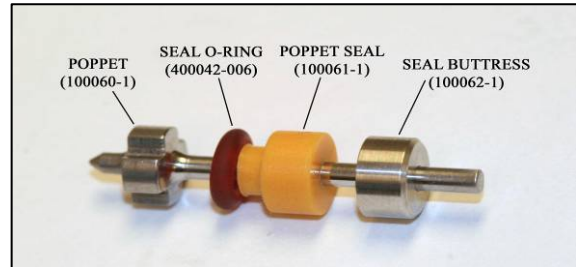

Figure 5
11. Apply a light coat of Food Grade Lube (400034-2) to the red Seal O-Ring (400042-006) and slide over the Poppet Seal (100061-1) groove. **See Figure 5**
12. Apply a light coat of Food Grade Lube to the shaft of the Poppet (100060-1). **See Figure 5**
13. Slide Poppet Seal (with O-Ring installed) half way down the shaft of the Poppet with the Seal O-Ring facing tip of Poppet. **See Figure 5**